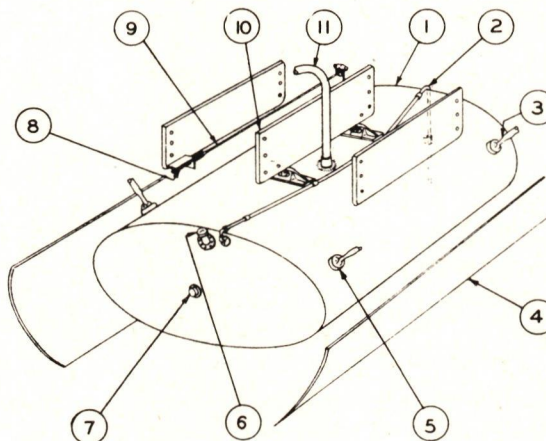

Figure 5-XVI - Auxiliary Fuel Tank Installation
a. Description.- The normal fuel supply of the A-25A Airplane can be augmented, whenever necessary, by the installation in the bomb bay of an auxiliary fuel tank (see fig. 5-XVI). The filler neck of this tank is located at the forward end and access to it is through the bomb bay door.
(1) Unfasten the lower connection of the forward-inboard sway braces and tie them securely back against the strut to which they are fastened. Remove the rear inboard sway braces from the airplane.
(2) Release the fuselage bomb rack hooks by pulling the A-3 bomb release handle into "SALVO" position.
(3) Loop a cable under the locking device on the center bomb rack. Extend cable over center rack and over left-hand rack. Pull the cable taut to prevent it from slipping from the locking device (see fig. 5-XVI). Approximately nine feet of 1/16 inch 7 x 7 cable will be sufficient.
(4) Place the center line of the tank in relation to the center line of the airplane, having the filler cap forward. Elevate the tank to approximately six inches from the stowed position and connect the standpipe to the gas line leading to the fuel selector valve. Continue raising the tank until the front and rear supports are in position for engagement with the locking hooks in the bomb rack. Pull cable and lock tank in position.